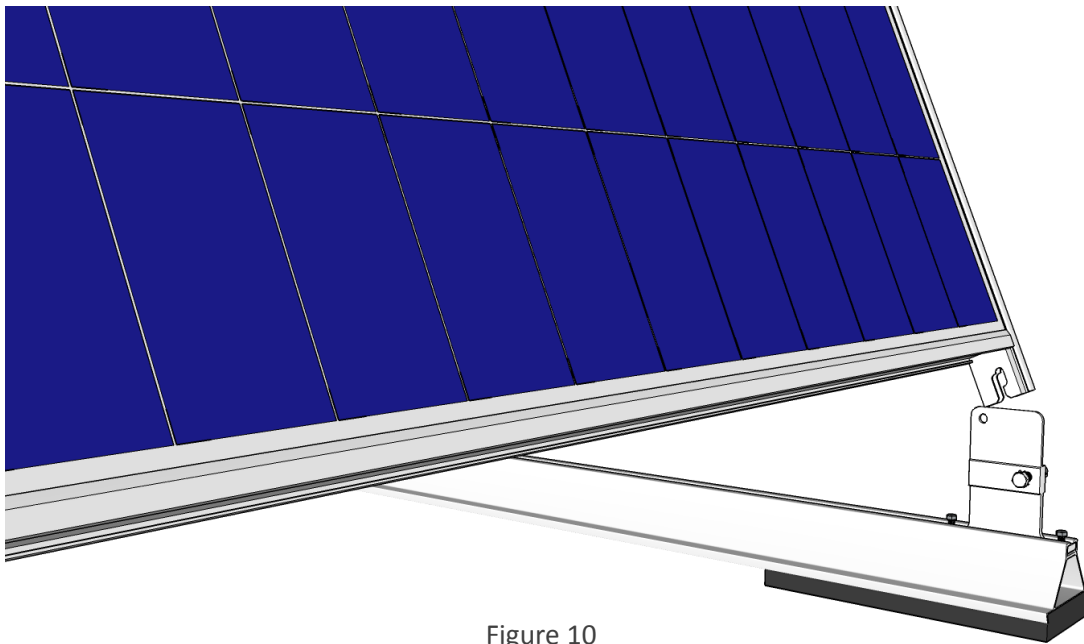

Figure 10
Step 7: Install Module – Figure 10